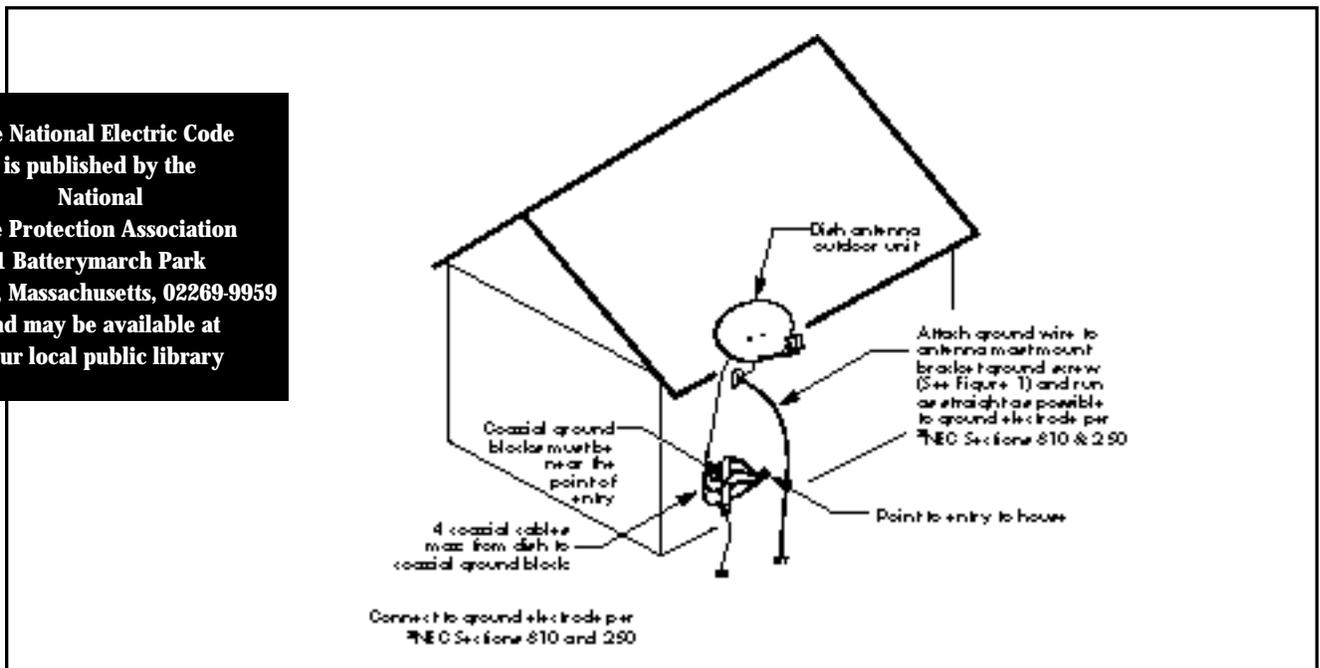

FIGURE 11
15. **Before making any wire connections, read "Connections", Page 18.** The next steps involve making the coaxial cable interconnections between the LNBs, multiswitch and the satellite receivers. First, choose one of the mounting location options for the multiswitch listed below that best fits your installation. Use approved installation kits with high quality, low loss RG6 coaxial cable to insure the best performance under all conditions. **All coaxial cables must be grounded outside at the point of entry. Contact a licensed inspector or electrician in your area for assistance. General grounding requirements are outlined in Figures 11 and 12.**
16. Even though all the above multiswitch location options are used by installers, this manual will concentrate on option #1. If an installer chooses to install the multiswitch in the house or at the point of entry to the house, then cables of proper lengths must be cut. To prevent corrosion, weatherproof outdoor connectors with rubber o-rings must be used for all outdoor connections. See Figures 11 and 12 for general wiring diagrams.
9. **This completes the On The Ground Assembly work for Option #1. For Options #2 and #3, follow similar applicable procedures in addition to Figures 11 and 12 as references.**
The universal mount and coaxial cables must be properly connected to grounding electrode(s) per National Electrical Code (NEC) Sections 810 and 250, and per your local codes. For the three multiswitch options described, please see top-level general grounding diagrams in Figures 11 and 12.